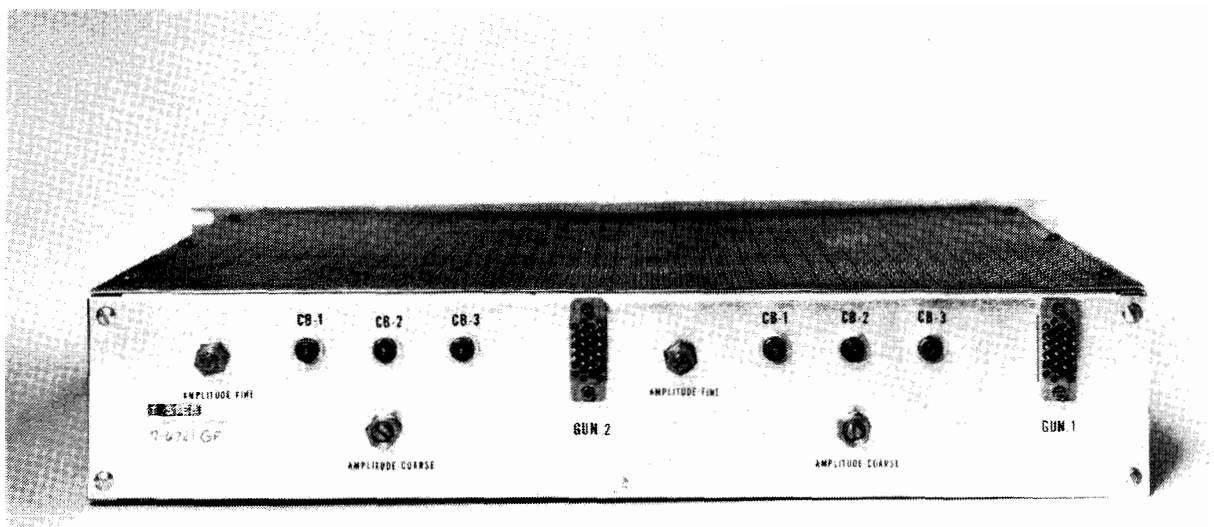

Figure 3-3. XYS-8 rear panel controls
- e) XY5-8 circuit breakers (optional): resettable pushbutton circuit breakers located on the rear panel of the XY5-8 (figure 3-3).